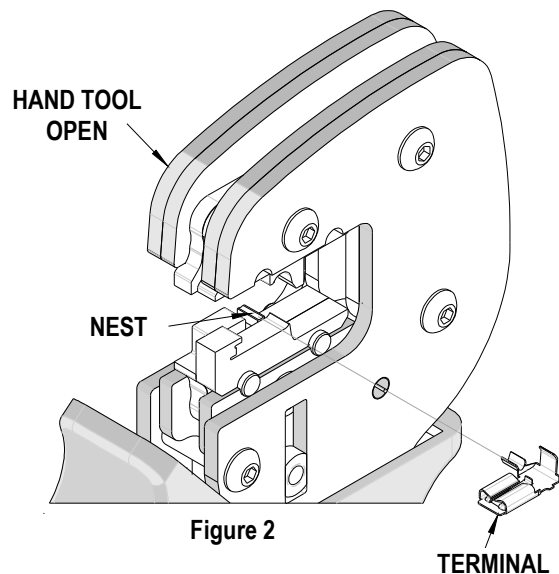

Figure 2
3. ● If using a 24 AWG wire, load in the profile marked A from the front. See Figure 2.